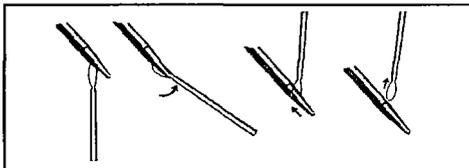

Figure 3: Association Loop Removal
- 9. Remove the association loop from the needle (see Figure 3).